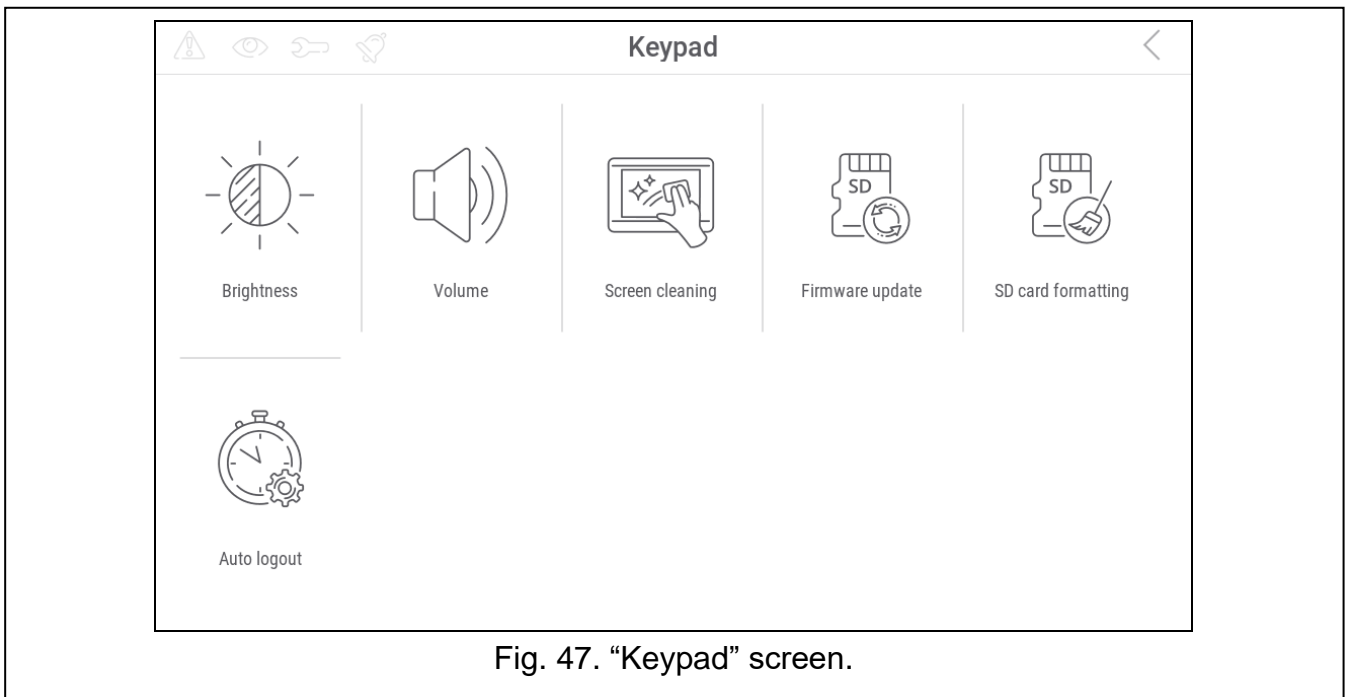

Fig. 47. "Keypad" screen.
6. Tap the "Keypad" function. The "Keypad" screen will be displayed (Fig. 47).
3. Tap the “Keypad” function. The “Keypad” screen will be displayed (Fig. 47).
8. Tap the “Keypad” function. The “Keypad” screen will be displayed (Fig. 47).